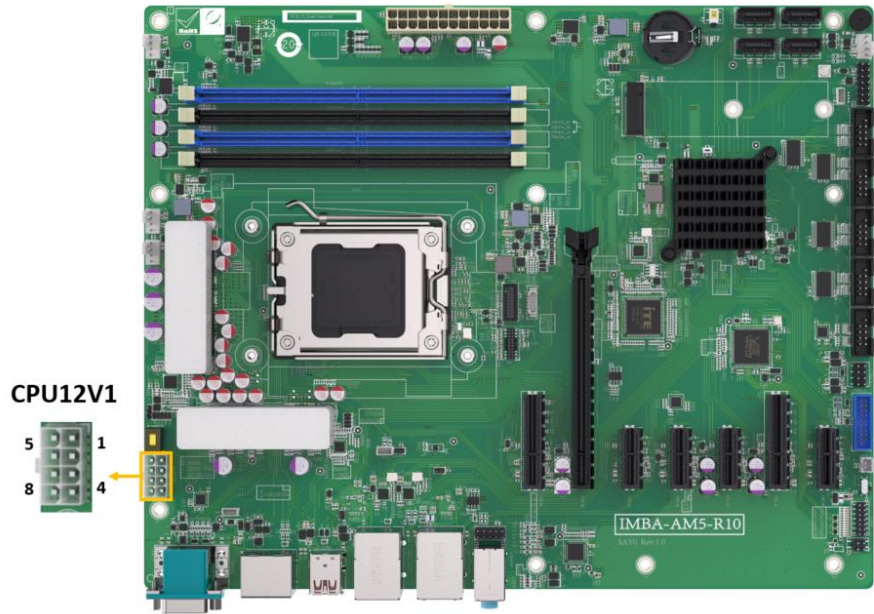

Figure 4-11: CPU 12V Power Connector Location
- CN Location:** See Figure 4-11